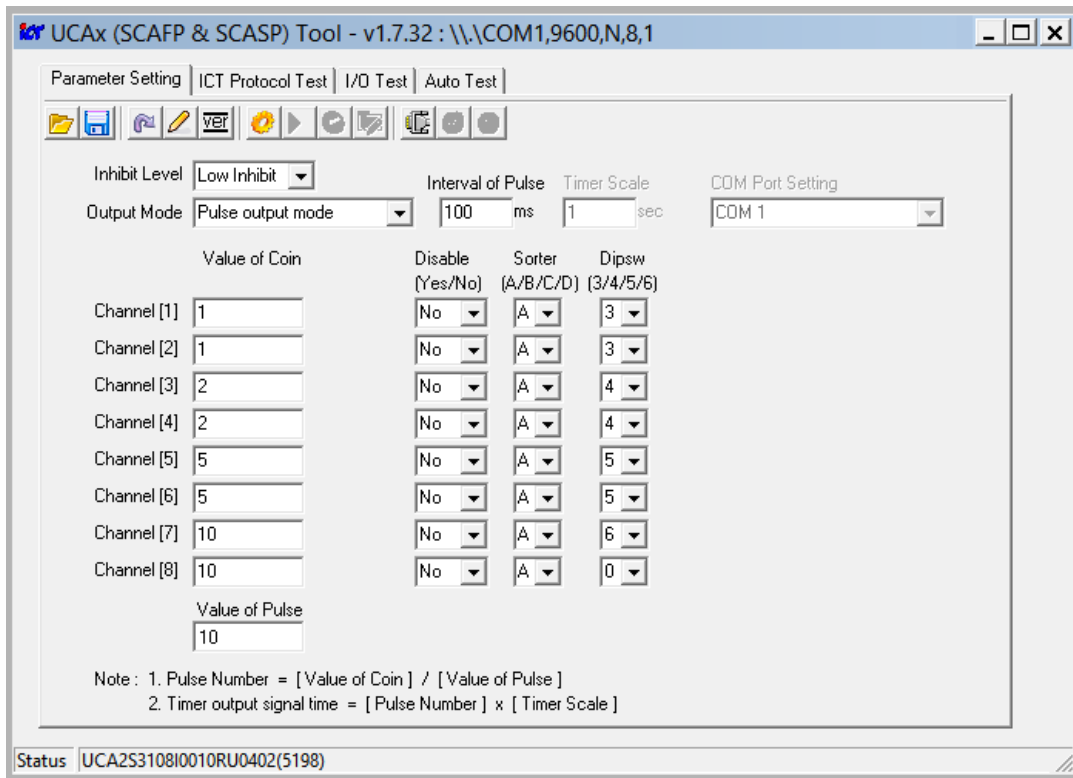

Figure 32. The program window with settings (an example of the configuration for receiving the amount of 10 rubles)
3. Install and run the application to configure the card capture reader settings “UCAx Tools” on the PC. The application window is shown in Fig. 32, connection with the coin acceptor is automatically installed immediately after the application is launched.
- click the **Read current version from UCA1** button, the current software version, for example, UCA2S380110010 (5198) will be displayed in the **Status** line (see Fig. 32);
- in the table in the columns **Value of Coin**, **Disable**, **Sorter**, **Dipsw**, set the coin denominations and the corresponding parameters for coin acceptor channels (from the 1st to the 8th), as shown in Fig. 32.
5. In the **Value of Pulse** field, enter the amount to be paid by the user for the passage (Fig.32 shows an example of the amount of 10 rubles).